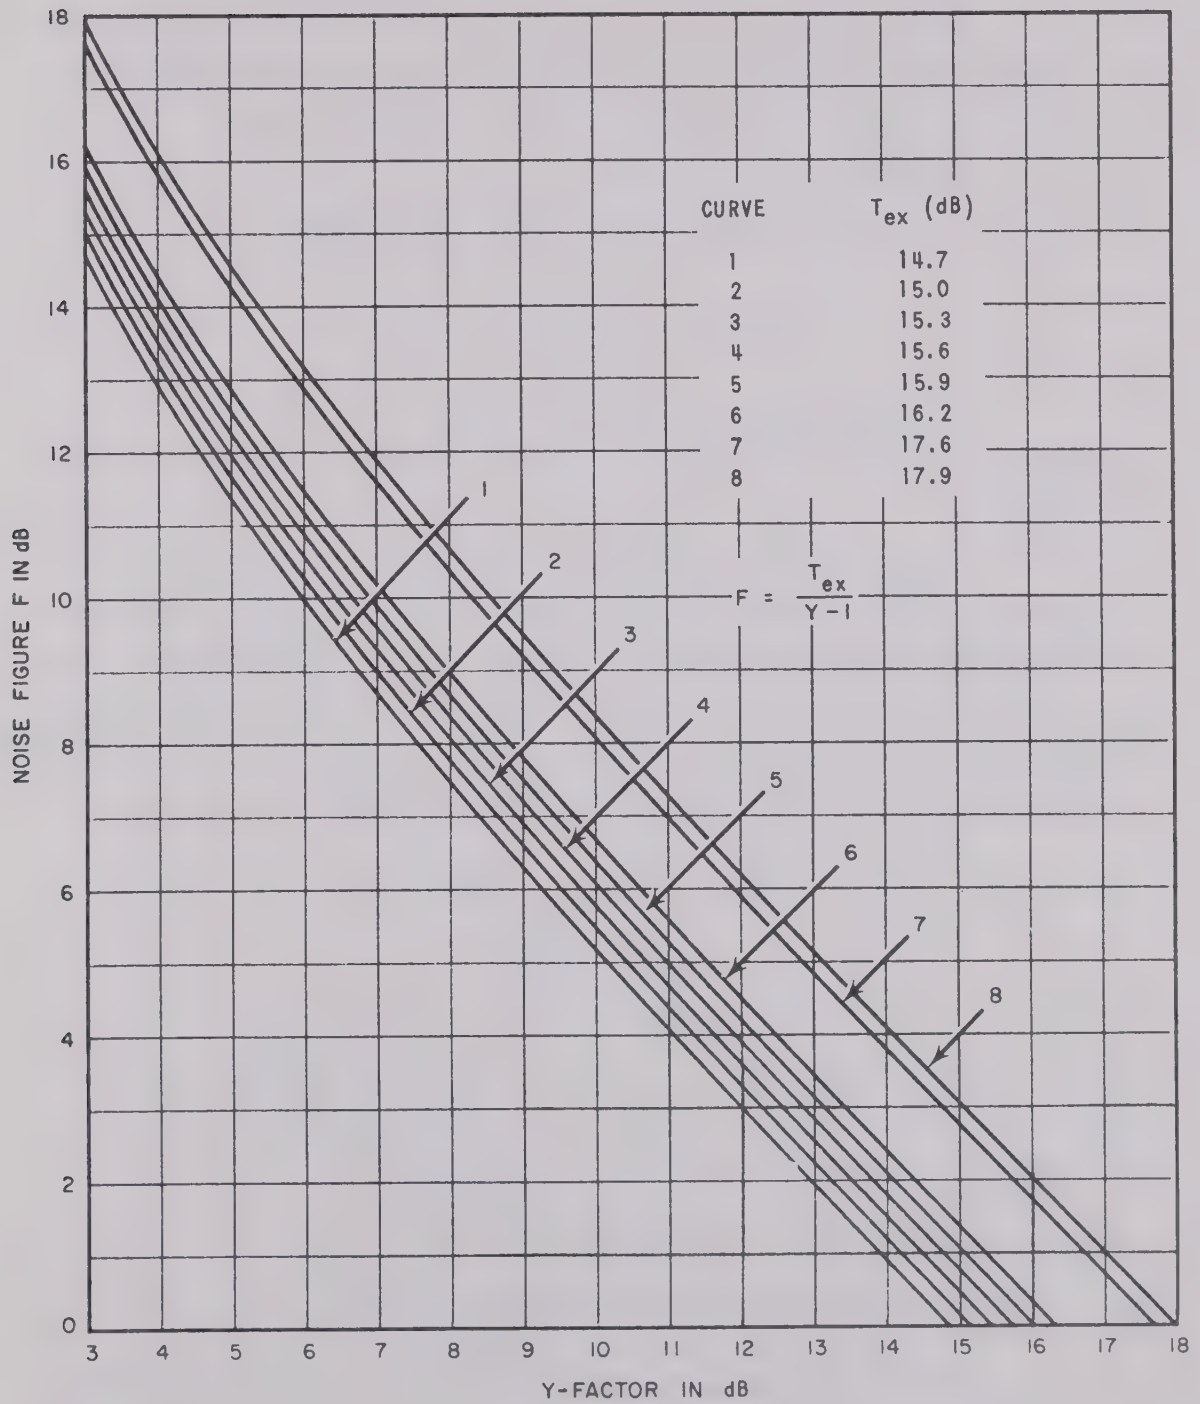

FIGURE 2. MEASURED NOISE FIGURE
Instead of actual computation, noise figure can be determined from Figure 2 if the excess noise ratio (T_{ex}) of the noise source (see Section II) is equal to one of the values shown in Figure 2. Excess noise ratio is defined:
If the excess noise ratio of the noise source is other than one of the values shown in Figure 2, noise figure can be determined as follows:
1. Determine noise figure from the graph (Figure 2), assuming $T_{\text{ex}} = 15.3 \text{ dB}$.